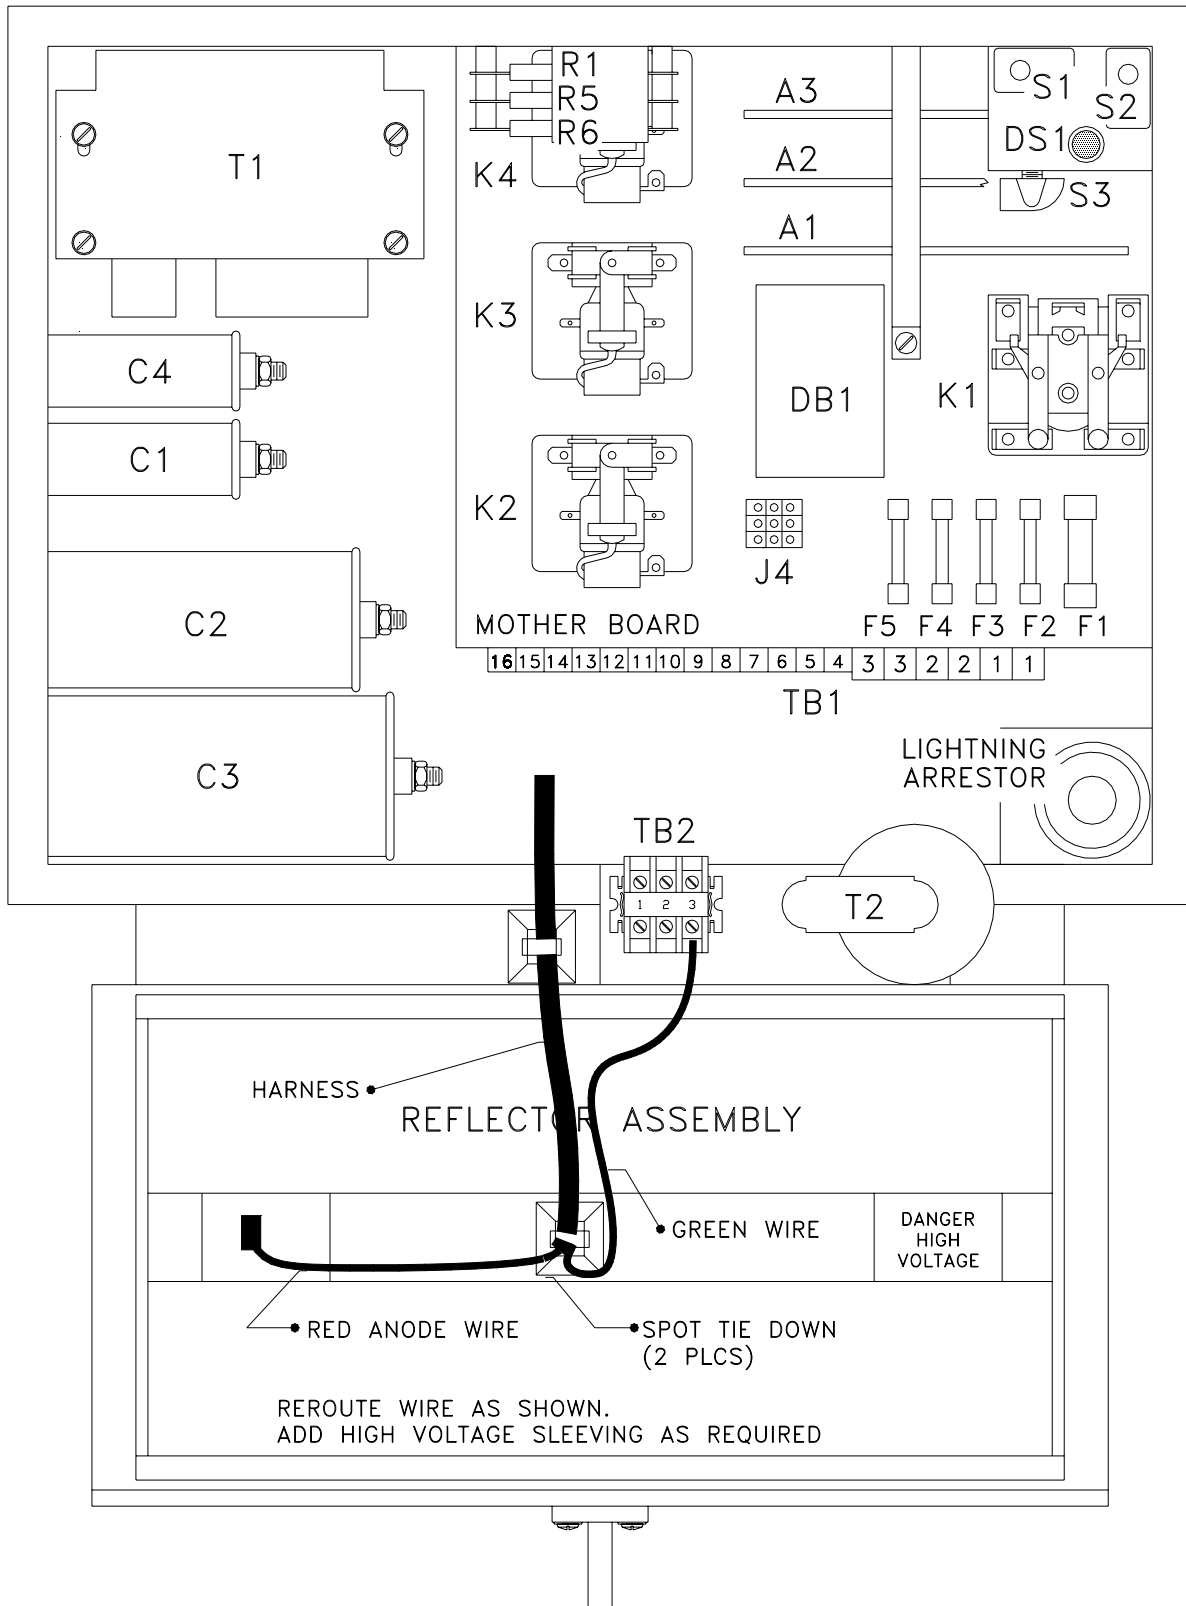

Figure 3-1: Component Locations - SS125 Obstruction Warning Light
3.2.1 SS125 Obstruction Warning Light (Figure 3-1)